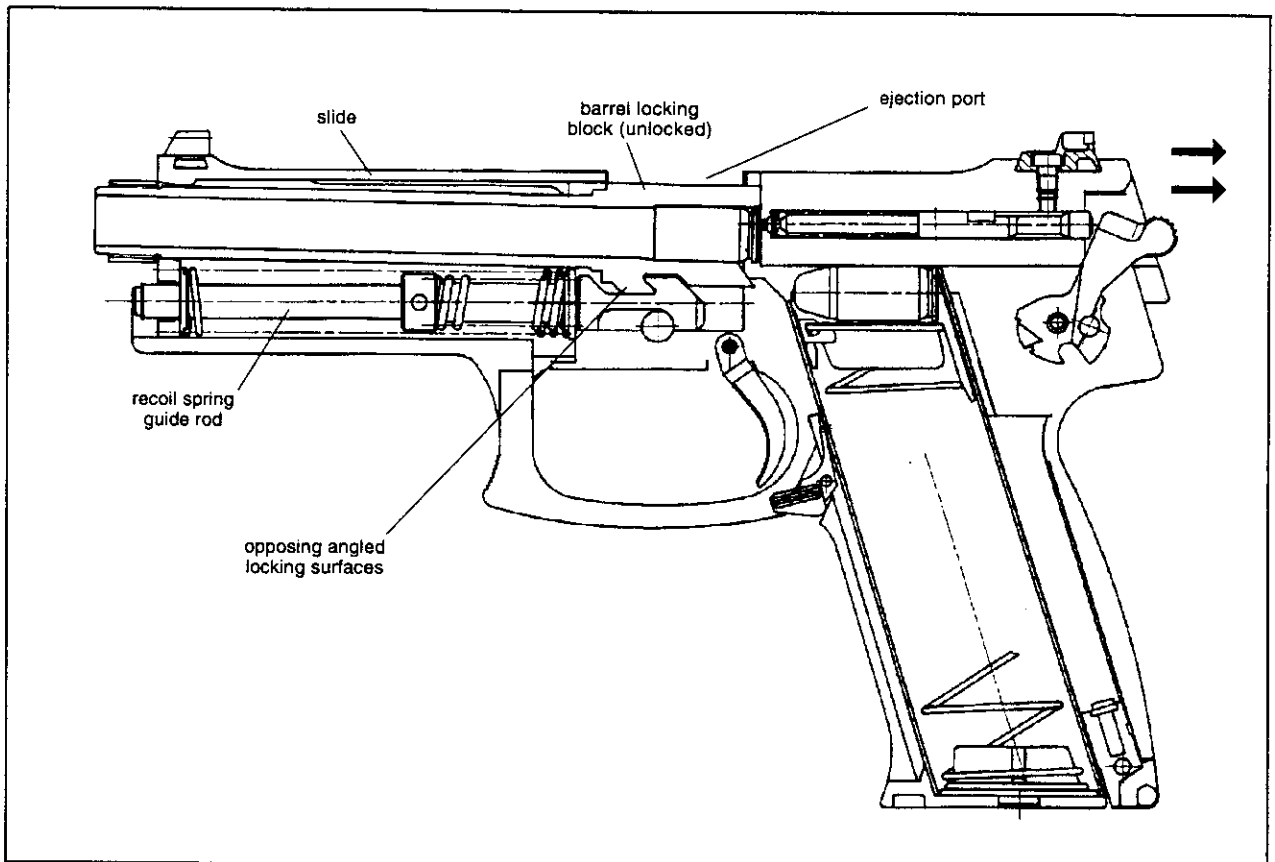

Figure 6 Unlocking
- B. **Unlocking** - (See Figure 6) The gas pressure and energy produced by the propellant gases push rearward on the slide, which is locked to the barrel by the engagement of the barrel locking block within the ejection port milled into the slide. The opposing angled locking surfaces incorporated into the design of the barrel locking block and recoil spring guide rod cause the rear of the barrel to tilt downward as the slide moves rearward. By the time the slide and barrel have recoiled approximately 5 mm, the projectile has left the barrel and the gas pressure within the chamber has dropped to a safe level. The barrel locking block then disengages from the slide. The slide is now free to recoil rearward independently of the barrel.